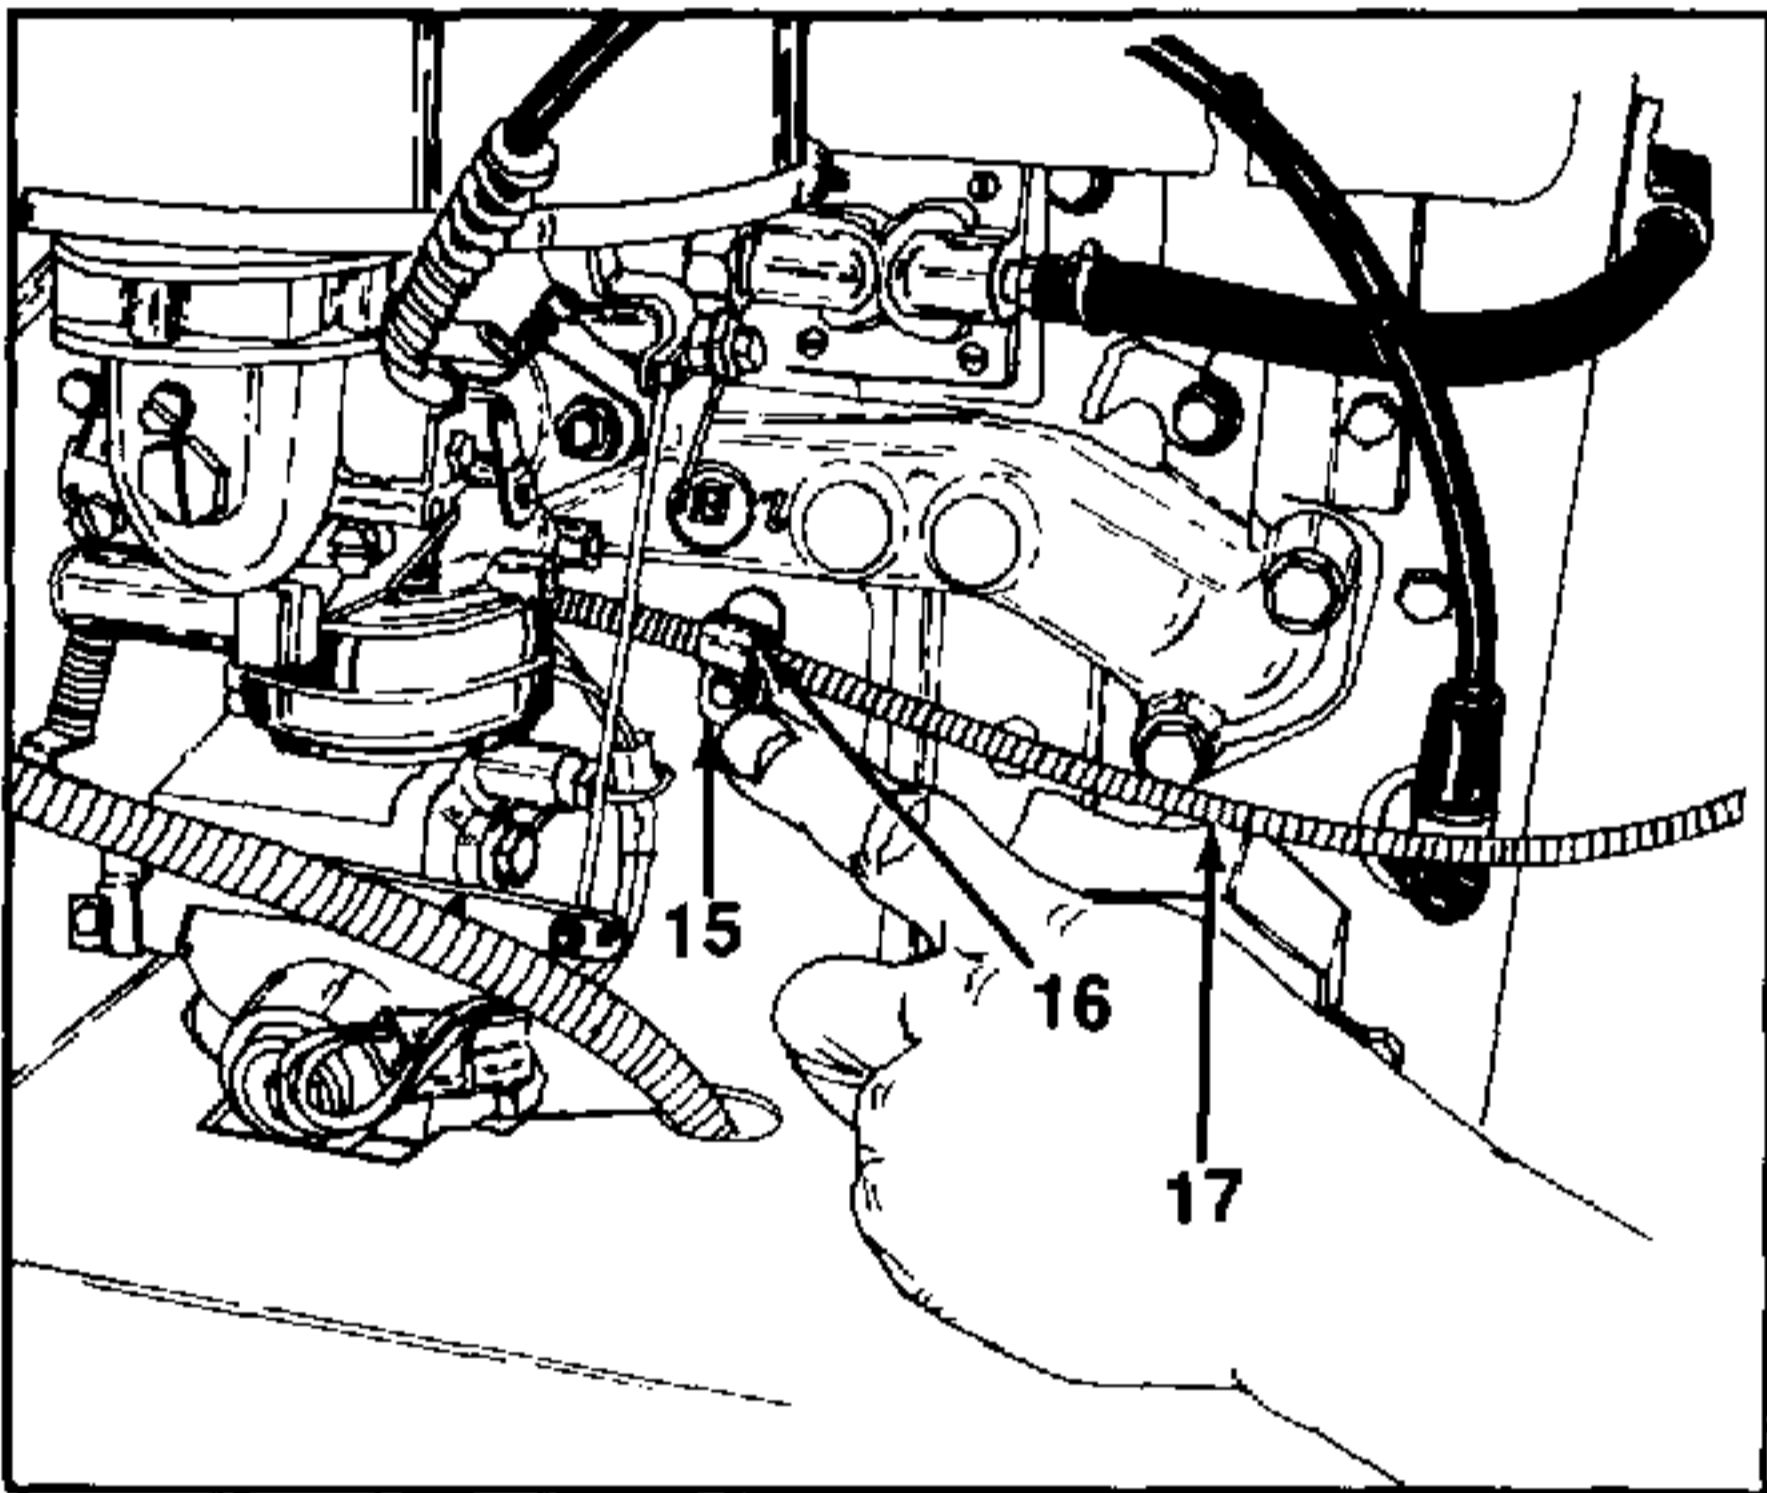

FIGURE 8.
11. Loosen the hex screw at the throttle control clamp. See figure 8.
12. Disconnect the throttle control cable from the front of engine. See figure 8.